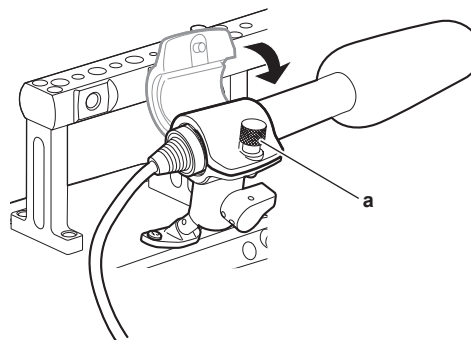

Fig. 2
- 2** Attach the microphone and tighten the clamping screw (a). (Fig. 2)